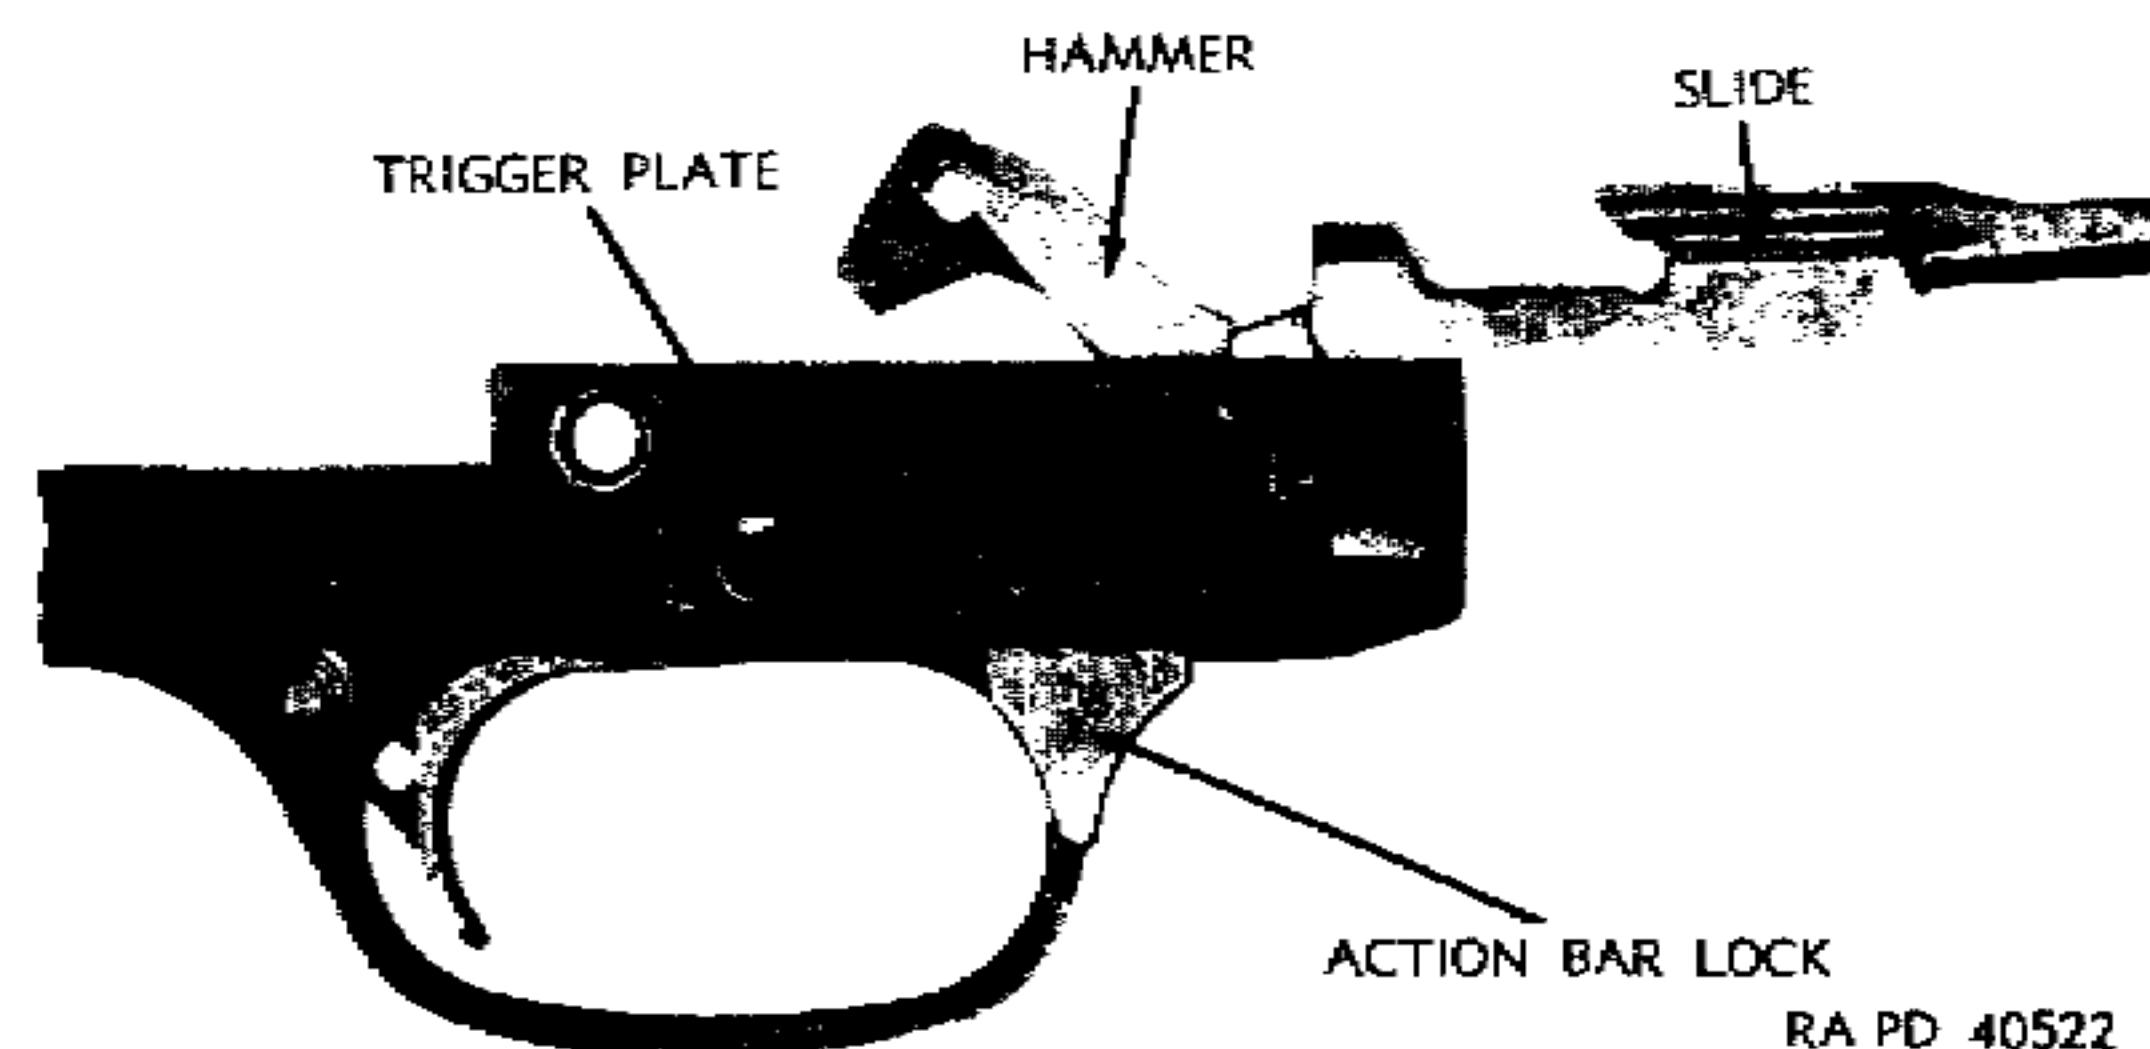

Figure 91—Slide and Trigger Plate Groups—Slide Riding Over Lock—Remington Shotgun M31
(4) The slide is engaged with the rear end of the action bar by means of a lug on the bar seating in a mating notch in the left side of the slide. The slide operates in guideways cut in the side walls of the receiver.
(5) The trigger plate (figs. 91 and 92) contains the trigger and integral sear, hammer, mainspring, action bar lock and the safety, together with their components. In the left side of the trigger plate is the left shell stop spring plunger which furnishes spring action to the stop.
(6) The magazine, which is of the tubular type, is screwed into the receiver below the barrel and has a capacity of four shells loaded end to end. The shells are pressed together and fed into the receiver by the force of the magazine spring acting upon the magazine follower. Some grades of this gun are furnished in a three-shot model. In the three-shot model the magazine holds only two shells.
(7) The left-hand and right-hand shell stops are pivoted in the lower inner walls of the receiver. The left-hand stop is operated by the action bar, while the right-hand stop is operated by the slide to block and release the shells in the magazine.
(8) The action bar lock is pivoted in the trigger plate (figs. 91 and 92) and engages with the slide to block its rearward movement after it has locked the breechblock in position, thereby preventing premature unlocking of the breechblock. The lock is disengaged from the slide either by the action of the mainspring follower which moves forward with the hammer when the gun is fired (skeet grade), or by manual pressure on the lower end of the lock which projects through the floor of the trigger plate at the right forward end of the trigger plate guard bow. (In the 31-A grade gun the lock is disengaged by a lug on the hammer bearing upon the lock spring, or by manually pressing on the lock). In the rear of the action bar lock, the trigger lock is pivoted and operated by a plunger and spring, assembled in the action bar lock. The trigger lock blocks the trigger from being pulled until the action bar lock is engaged, thus preventing premature firing of the gun.
rearward movement of the slide (figs. 91 and 92). As the lock springs up, it disengages the trigger lock from the trigger, which is now free to be pulled.